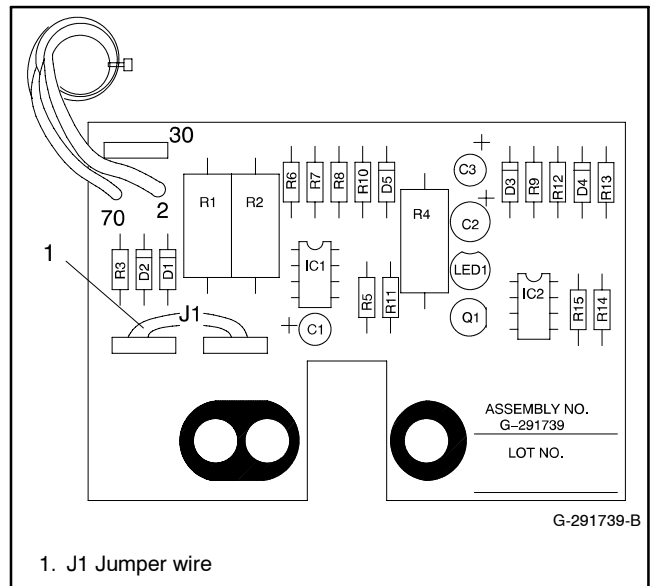

Figure 5-4 Overvoltage Shutdown Adjustment (Circuit Board Kit on Frequency Meter)
3. Check for the J1 jumper on the overvoltage circuit board. Install the J1 jumper if the generator set is connected for 139/240 volts (low wye) or 277/480 volts (high wye) 3-phase, 4-wire, 60 Hz. Remove the J1 jumper for all other voltages. See Figure 5-4.